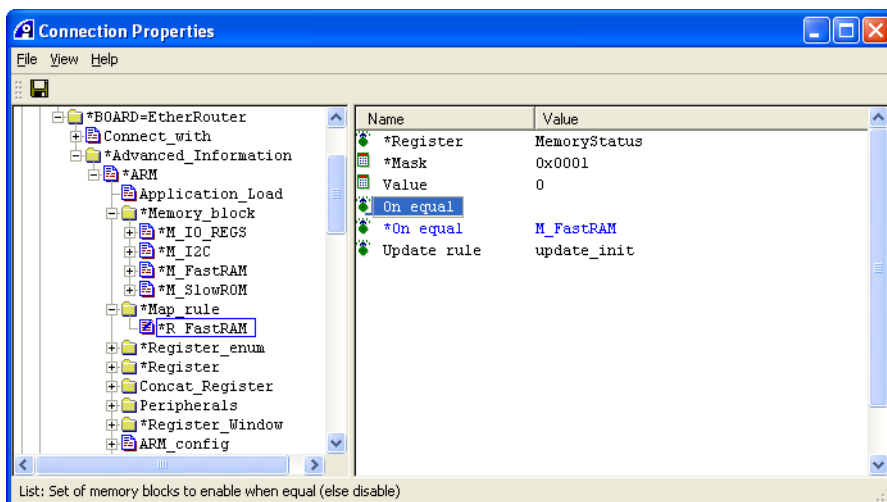

Figure 5-19 Settings for the R_Fast_RAM map rule
4. Set the following values, shown in Figure 5-19: